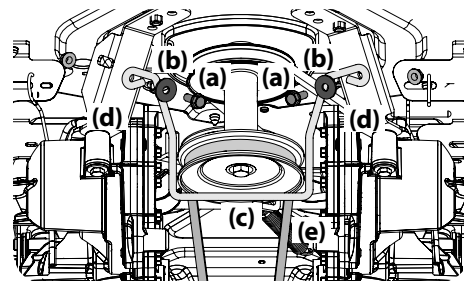
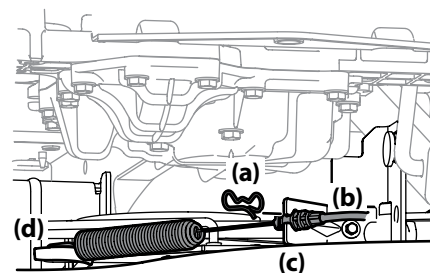

Figure 4-10
Figure 4-11
3. Remove the hex washer screw (a), flat washer (b) securing the belt keeper rod (c) to the transmission mount brackets (d) and remove the belt keeper rod (c). See Figure 4-10.
4. Remove the bow pin (a) that secures the PTO cable (b) to the bracket (c) on the deck, slide the PTO cable (b) out of the bracket (c) and unhook the spring from the idler bracket (d). See Figure 4-11.
5. Remove the 'V' belt (e) from the PTO pulley on manual PTO tractors on the bottom of the engine and skip ahead to Step 9. See Figure 4-10.
13. On manual PTO tractors, reinstall the belt keeper rod (Refer to Figure 4-10) and the PTO cable (Refer to Figure 4-11).